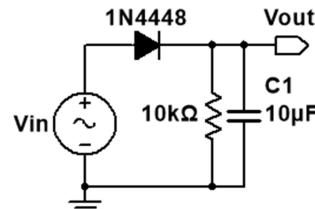

FIGURE 29. Filtered rectifier.
- Add** a 10 μF ceramic capacitor to your circuit as shown in Fig. 29 to create a filtered rectifier.13 **Save** images of the output waveform. **Note** the peak-to-peak voltage of the ripple ( $\Delta V$ ) divided by the DC offset of the waveform ( $V$ ). **Compare** it with the fractional peak-to-peak ripple  $\Delta V/V$  that you calculated in P4.6. **How** does the ripple change when you: i) **double** the input frequency? ii) **double** the filter capacitance?